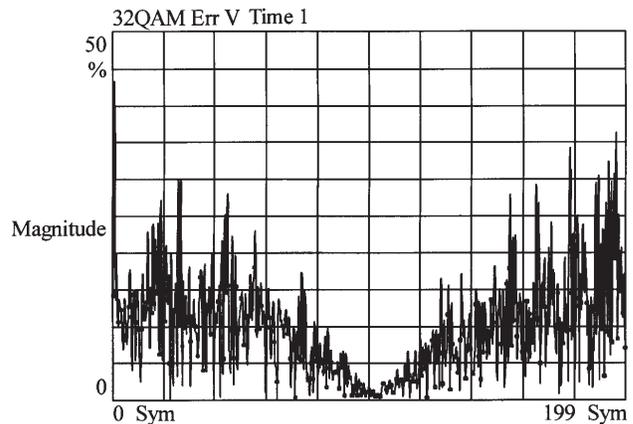

Figure 10. V-shaped EVM plot due to incorrect symbol clock rate.
5. Figures 10 and 11 illustrate other setup problems the EVM waveform can highlight.